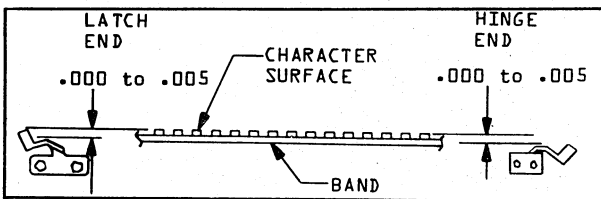

FIGURE 5-23. RIBBON GUIDE POSITION
4. Place a straight edge horizontally across the band character surface and check that both ribbon guides are from .000 to .005 inch (.000 to .127 mm) behind the character surface. The end guide can be adjusted by loosening the two mounting screws (see Figure 5-23).